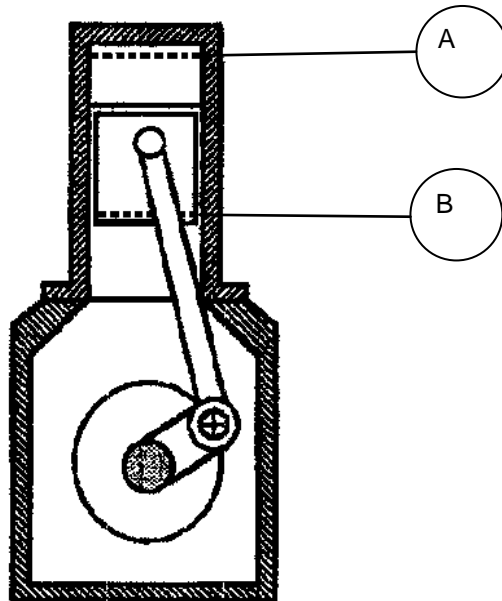

FIG. 3
- The lines "A" and "B" in Fig. 3 indicate the limits of travel of the top of the piston